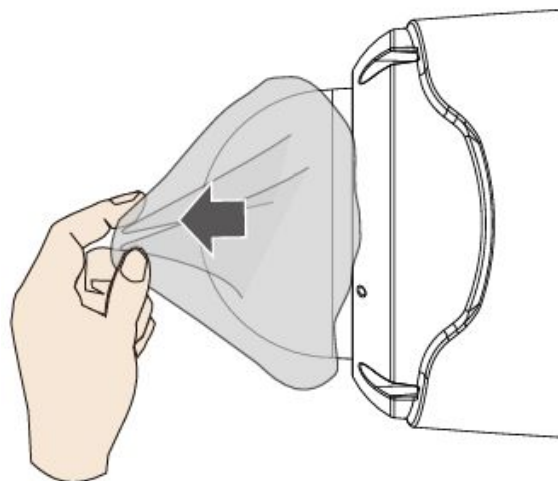

Figure 1-8
**Step 8** Remove dome cover protective film. See Figure 1-8.